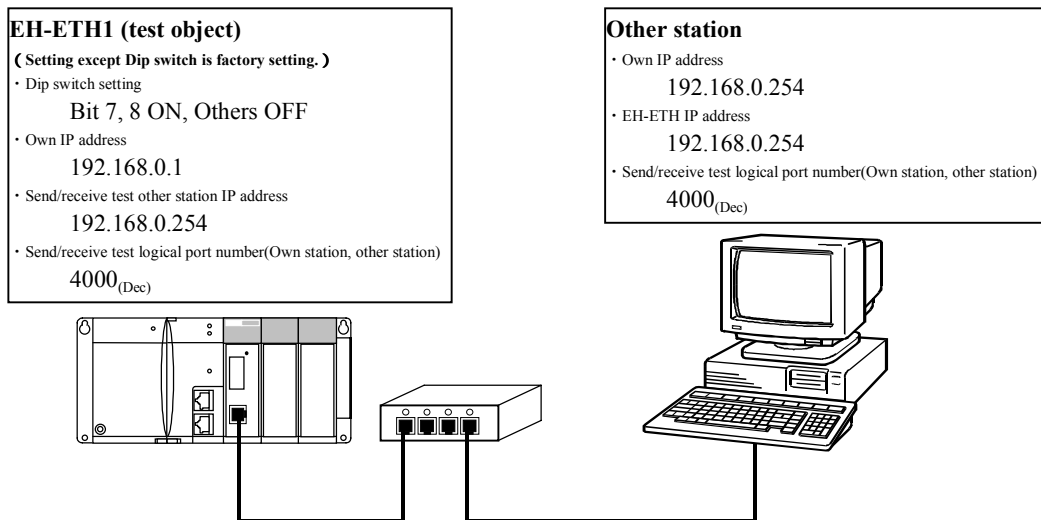

Figure 10.2.3 System configuration of communication test (2)
- (a) Set communication parameter according to the Figure 10.2.3.